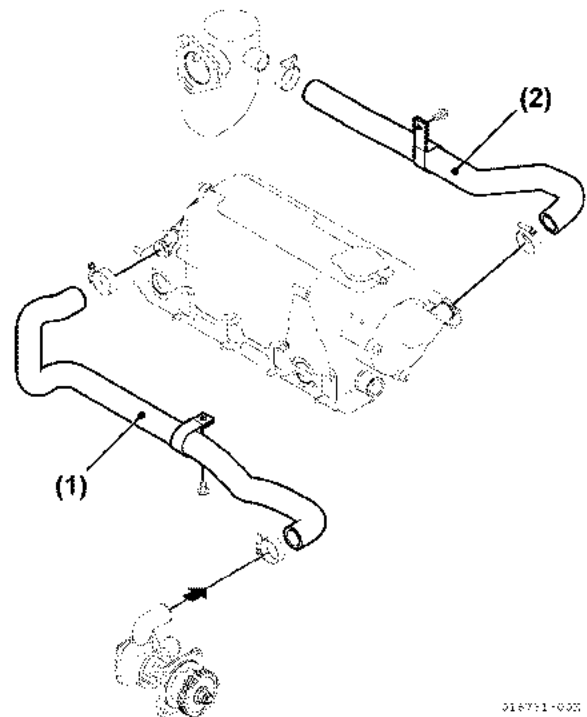

**Figure 7-21**
1. Loosen bolts (**Figure 7-21, (1)**) and remove intercooler from cooling freshwater cooler. See *Remove the intercooler (only for 4JH4-HTE) (Figure 5-21): on page 5-28.*
2. Remove air duct assembly (**Figure 7-21, (2)**) and gasket (**Figure 7-21, (3)**).
3. Remove water box A and B (**Figure 7-21, (4)**).
4. Disassemble, inspect and clean intercooler assembly (**Figure 7-21, (5)**) and change as necessary. **NOTICE: NEVER use caustic soda to clean the components. Use paraffin-based engine detergent to clean the cooler element. Thoroughly flush and rinse all components.**
6. **NOTICE: Always install new O-rings.** Install new O-rings (**Figure 7-21, (6)**) on water boxes.